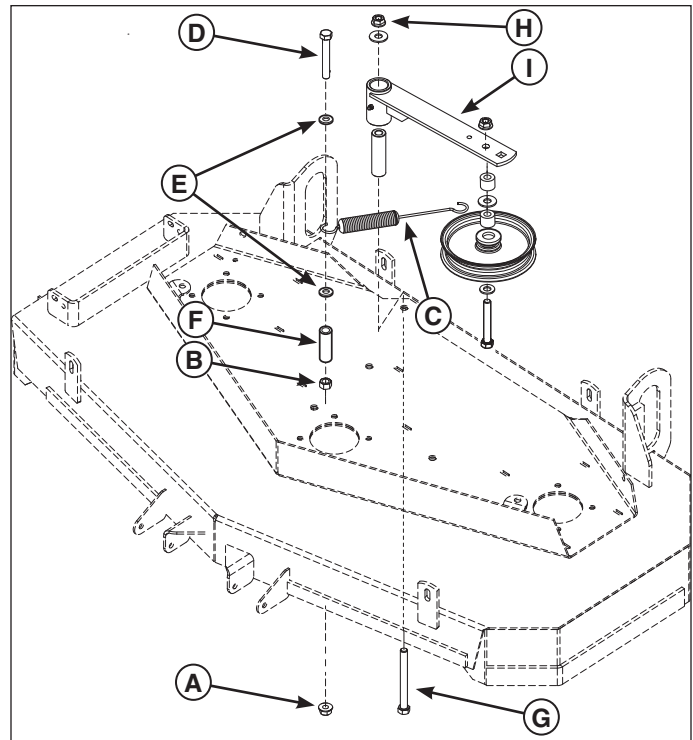

Figure 3. Removing the Idler Arm Assembly
1. Loosen the 1/2" nylock flange nut (A, Figure 3) that secures the stationary belt tensioner mount to the mower deck. Discard the nut.
2. Loosen the 1/2 hex nut (B) that secures the belt tensioner mount to the spring (C). Discard the nut.
3. Remove the 1/2 X 4" bolt (D), 1/2 washers (E) and 1/2 X 2-1/2" hose (F) from the spring. Discard the bolt, washers and hose.
4. Loosen and remove the 1/2" X 4-1/2" bolt (G) and 1/2-13 nylock flange nut (H) that secure the idler arm assembly (I) to the mower deck. Remove the idler arm assembly from the mower deck. Discard the bolt and nut.